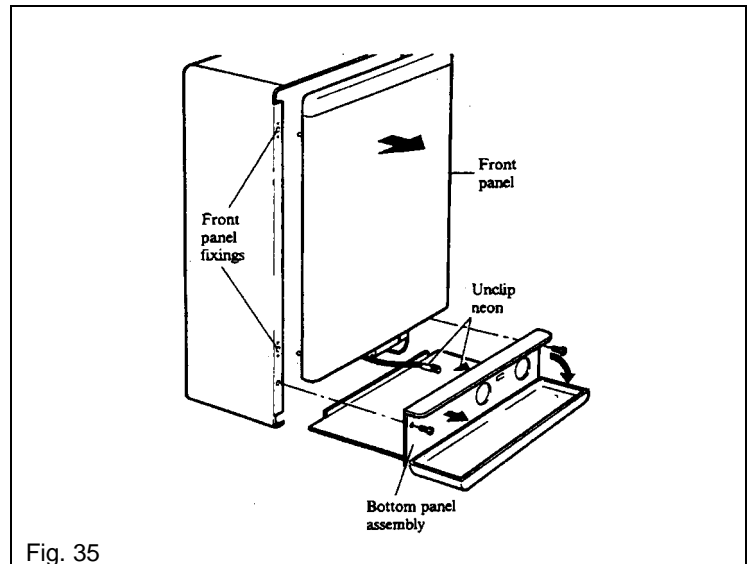

Fig. 35
9. Carefully slide the bottom panel assembly into position (the bottom panel goes above the returns on the case side panels), clip the neon, see Fig. 35, into its holder on the back of the control panel as the bottom panel is slid into position. Secure the bottom panel to the side panels using the four screws previously removed. With the control panel cover open, secure the control panel to the side panels with the two countersunk hd. screws previously removed.